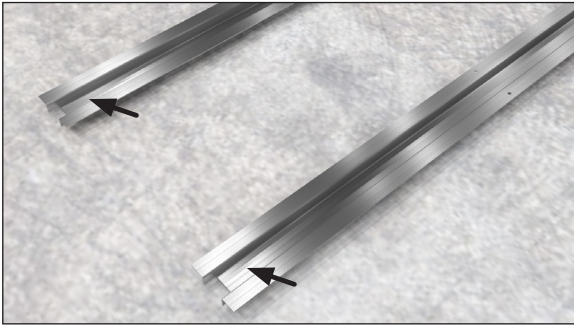

Fig. 3 Seismic anchoring locations
8. If necessary, drill a hole in each end of every horizontal support (Fig. 3) and fasten to the floor with concrete anchors. **Note: The holes do not need to be in the exact locations specified here. Be sure that the anchors are close to the end of the horizontal supports and at each corner of the case.**